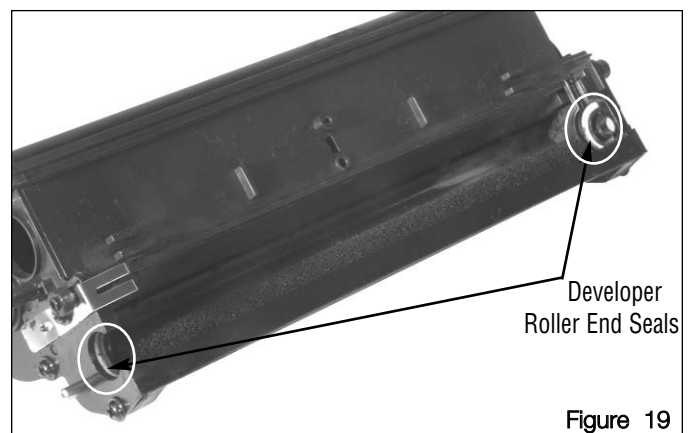

Figure 19
- c. Use a dry cotton-tipped or lint-free Swab to clean Toner and debris from the gill-like Developer Roller End Seals at each end of the Hopper (Figure 19).